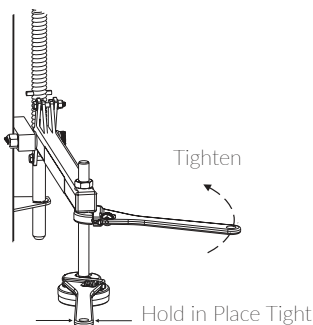

Figure 6-5
- Lower the platform about 5" to relieve pressure from the scooter's deck. While holding the stationary nut in place, run the bottom nut up to the hold-down arm and tighten. See Figure 6-5.